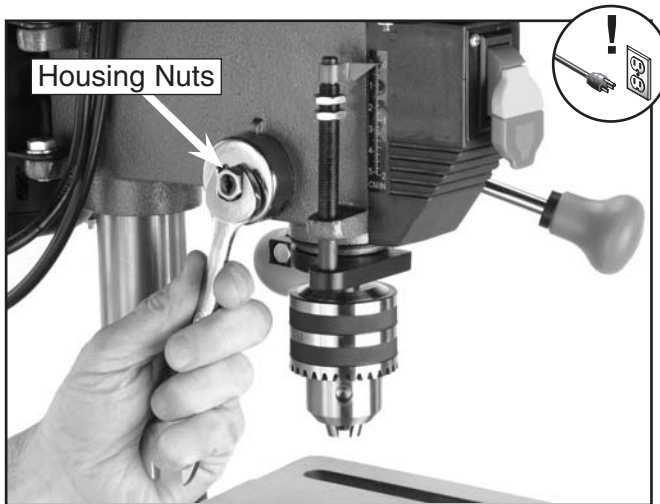

Figure 20. Loosening housing nuts.
2. Loosen the two housing nuts (**Figure 20**) about $\frac{1}{4}$ "; do not remove the nuts completely from the threaded shaft.